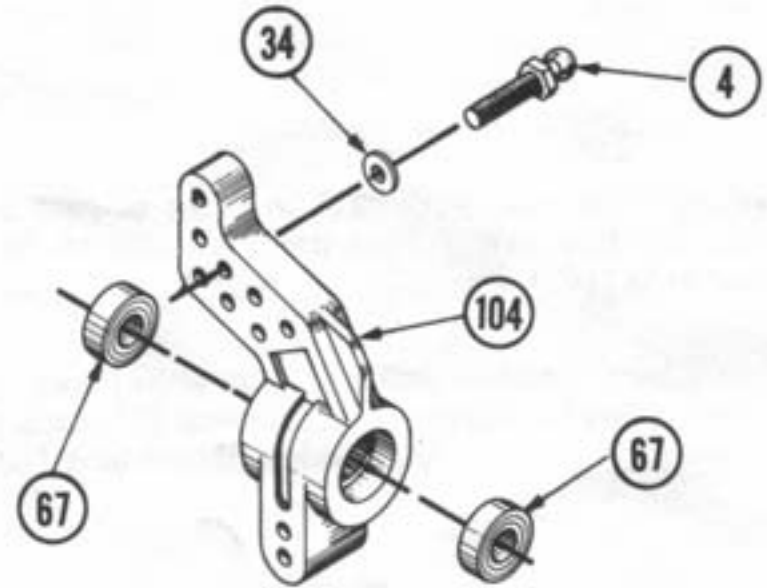

Figure 36
15. Place a gold washer (34) over the 3/8" ball stud (4) and thread ball stud (4) from the front side into the hole shown on the hub carrier (104). Fig. 36
16. Press a 3/16" x 3/8" bearing (67) into each side of hub carrier (104). Fig. 36